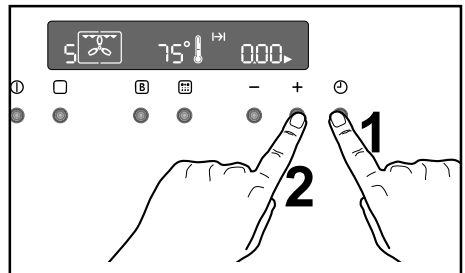

Fig. 9
- 2) Press button  to select the "Cooking Duration" function (Fig. 9). The "Cooking Duration" symbol  will flash and the control panel will display "0.00". (Fig 9).